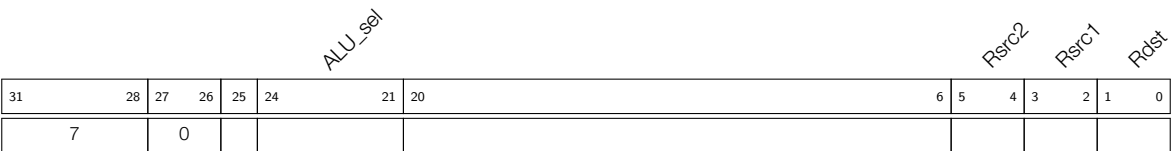

Figure 28-7. Instruction Type — ALU for Operations Among Registers
When bits [27:26] of the instruction in Figure 28-7 are set to 0, ALU performs operations on the data stored in ULP-FSM registers R[0-3]. The types of operations depend on the setting of the instruction bits ALU\_sel [24:21] presented in Table 150.
**Operand**    **Description** - see Figure 28-7